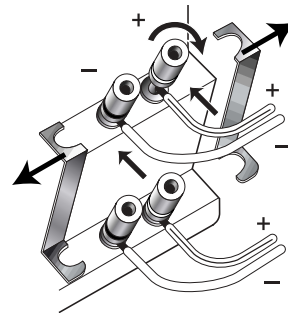

Figure 9. Loosen the terminals and remove the strapping bars that connect the two sets of terminals.
2. Loosen the terminals and remove the strapping bars that connect the two sets of terminals (Fig. 9).